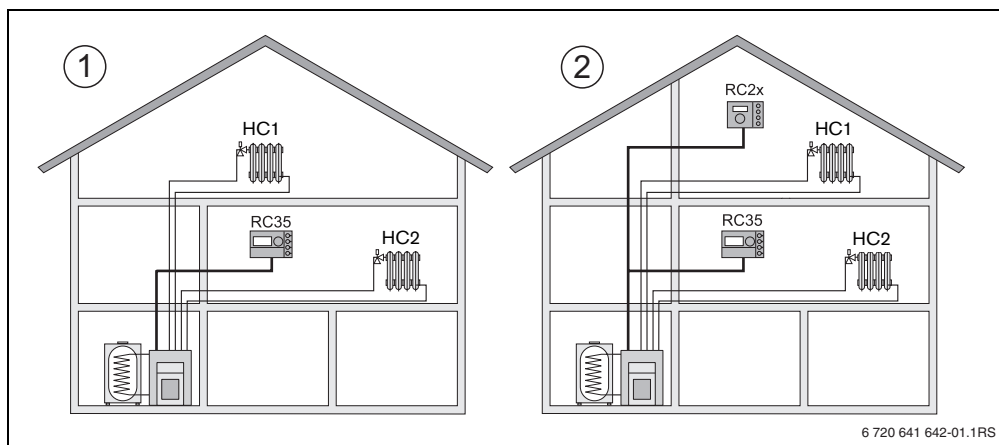

Fig. 2 Options for a heating system with two heating circuits
- As the only programming unit in a heating system with two or more heating circuits1) (→ Fig. 2 [1]).
- In conjunction with a remote control (e.g. RC2x, RC20/RF, Fig. 2, [2]). In this case there are always two separate heating circuits. Remote control units cannot be used for boilers with UBA1.x.